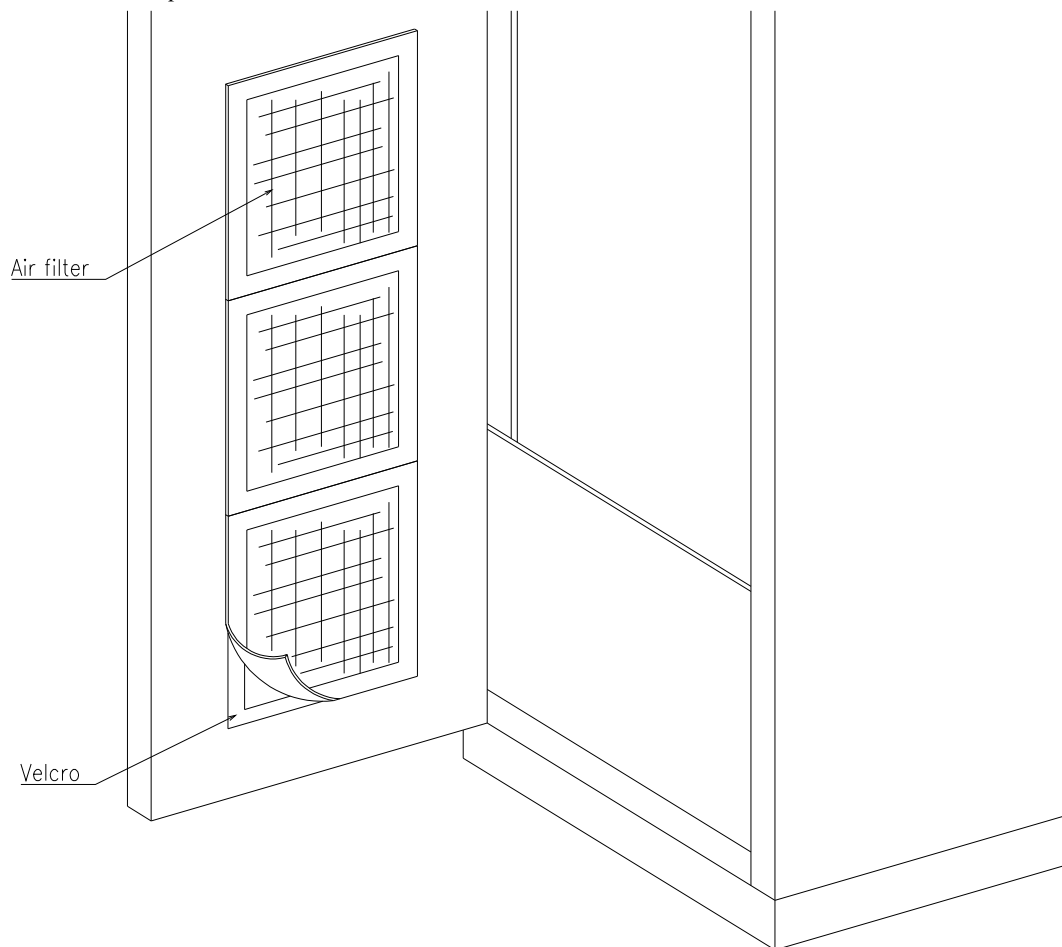

Figure 3.2.2-1 Removal of air filter
(1) Clean the air filter on the front door of the DVOR Equipment every six months in order to maintain the cooling effect. The method to clean the air filter is explained below (See Figure 3.2.2-1). Always clean when it gets dusty.